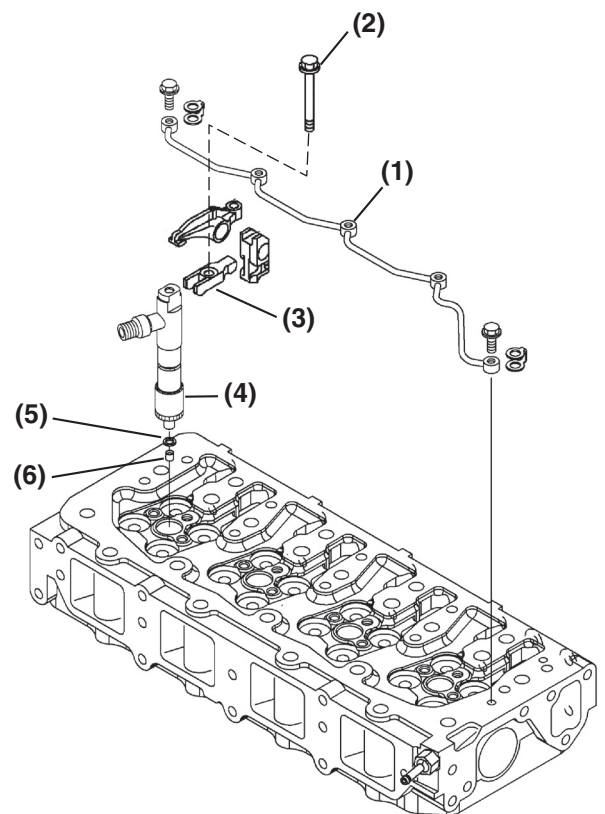

Figure 7-47
3. Remove the injector return line (**Figure 7-47, (1)**). Be careful not to bend the line.
4. Remove the fuel injector mounting clamp bolts (**Figure 7-47, (2)**). Lift the injector mounting clamps (**Figure 7-47, (3)**) away from injector.
5. Remove the fuel injector (**Figure 7-47, (4)**) from the cylinder head.
6. Remove the injector nozzle protector (**Figure 7-47, (5)**) and seat (**Figure 7-47, (6)**) from the cylinder head. Discard both items.